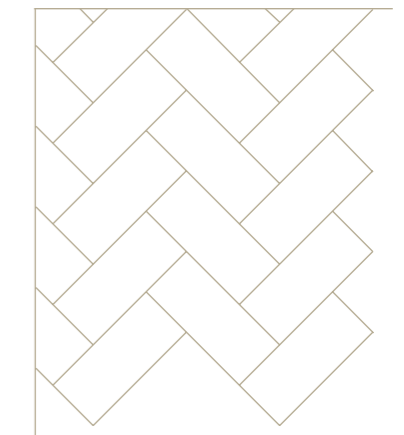

Figure 4: Fitting the planks and smaller pieces up against the wall.
5. Planks and fitted pieces against a wall should be cut to leave a 10-15 mm gap to the wall. See figure 4.